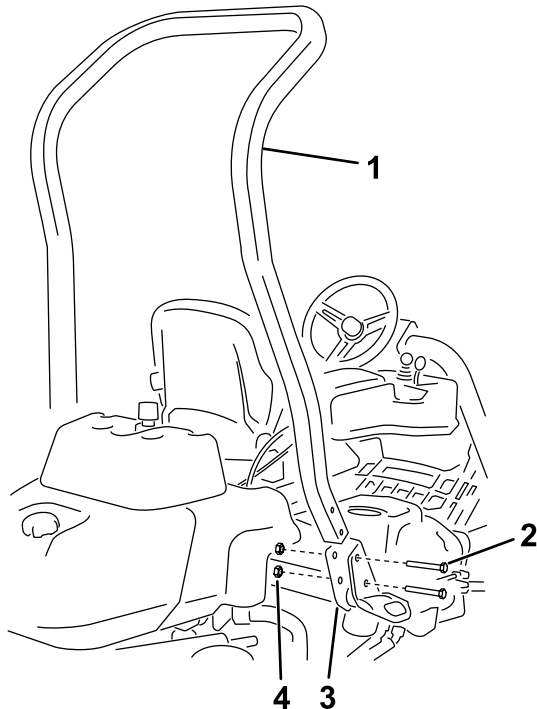

Figure 3
3. Use 4 bolts (1/2 x 3-3/4 inches) and 4 flange nuts (1/2 inch) to install the roll bar into the ROPS brackets on each side of the machine as shown in Figure 3.